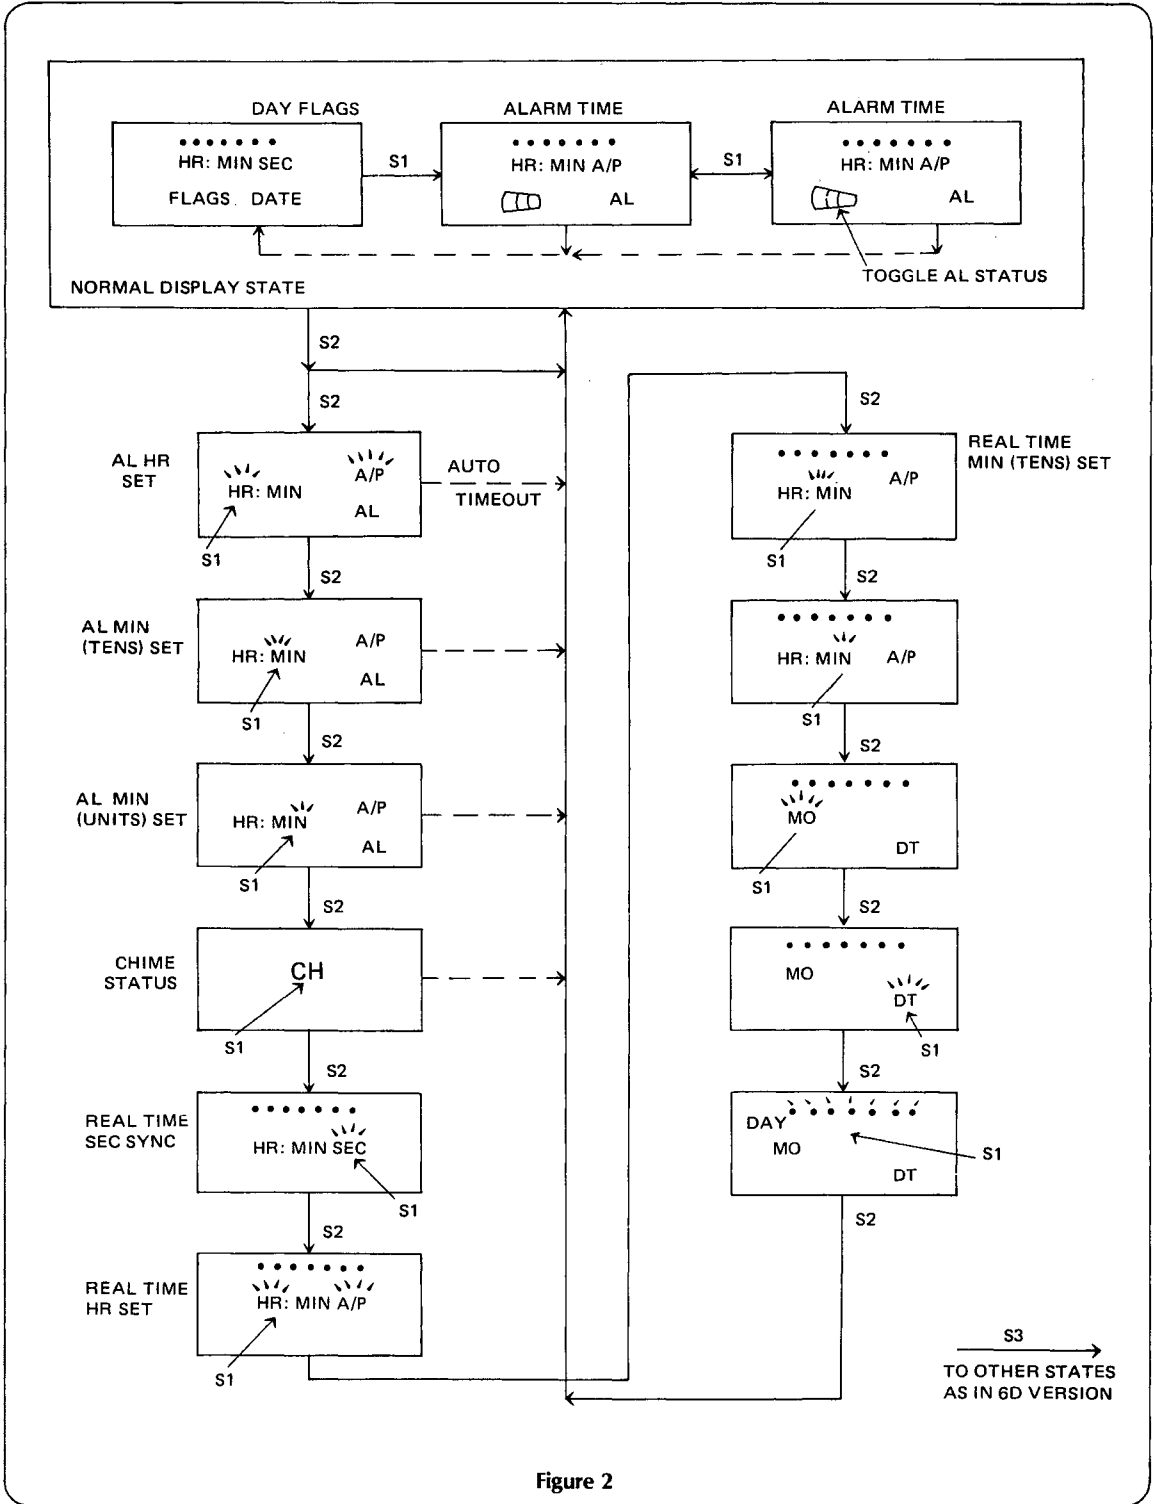

Figure 2
1. The NPN pad may be used to drive the base of an NPN transistor when used with a coil for amplified sound output. Direct drive on the piezo is accomplished using AL an AL (Ref. Fig. 2)